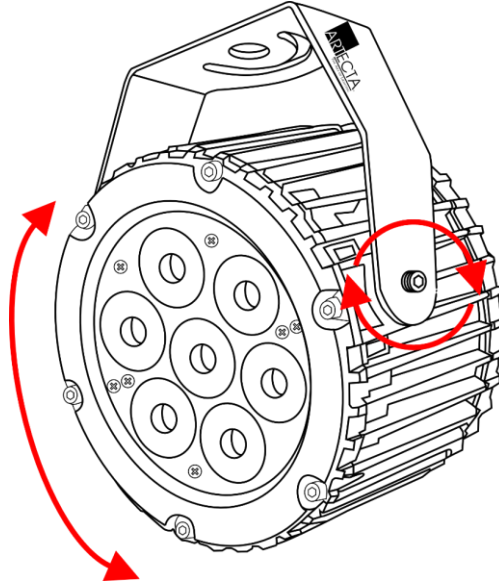

Fig. 06
- 01) Use the hex key to turn both **adjustment screws (08)** counterclockwise to release them.
- 02) Tilt the device to the desired angle (see Fig. 06).
- 03) Use the hex key to turn the **adjustment screws (08)** clockwise to tighten them. Make sure that the device cannot move freely after the **adjustment screws (08)** are tightened.